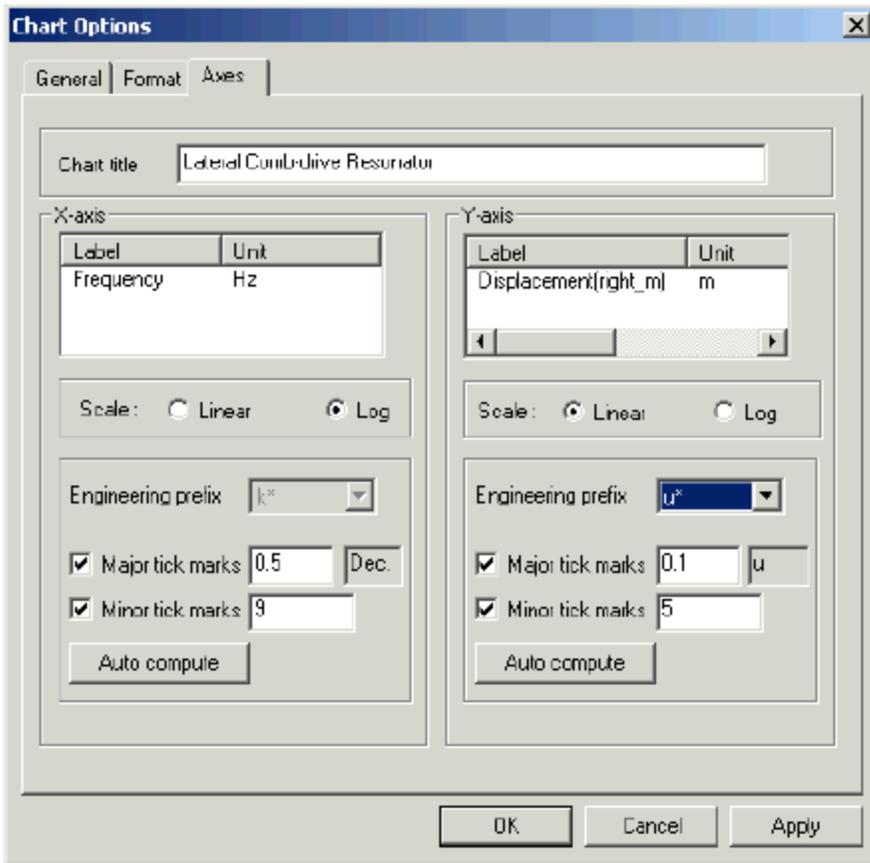

Figure 14: Chart Options dialog
- ✂ In the **Y-axis** list, remove the information that appears and enter **Displacement(right\_m)** under **Label**, and **m** under **Units** (Figure 14).